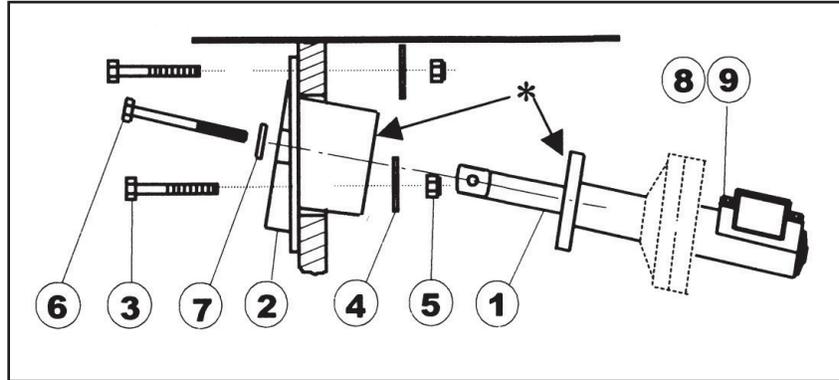

Figure 3.
Secure the helm mounting plate (item 2) in position using three each of the 2-1/8" long hex bolts (item 3), large OD flat washers (item 4), and locknuts (item 5). Be sure the washers are on the inside of the dash as shown (see Figure 3). Tighten securely.
Insert the helm shaft through the hole in the mounting bracket, orienting the helm so the rack and cable assembly are on top (see Figure 3). Secure in place using two 2-1/2" long locking patch hex bolts (item 6) and flat washers (item 7). Tighten bolts (75-125 inch-pounds).
*When tightening, draw mating surfaces \* flush first before applying final torque. See Figure 3.*